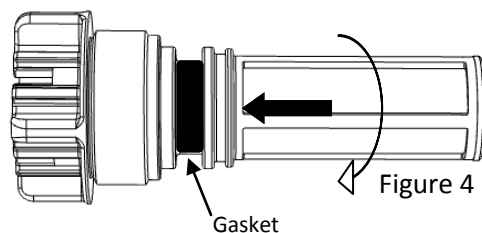

Figure 4
9. Install bypass filter by pushing it onto cap and twist to lock. (there should now be only one gasket between cap and filter) (Figure 4)